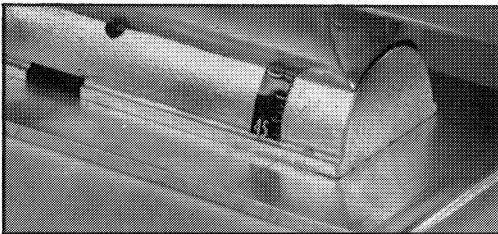

Fig. 5
Since your saw has an adjustable base, you can make bevel cuts between 0 degrees and 45 degrees to either side of the center. When the top (0) line on the trunnion index plate, Fig. 5, is adjacent to the housing, the saw is set for regular right angle (no bevel) cutting. When the first short line down is adjacent to the housing, the saw is set for a 5 degree bevel cut. When the second short line down is adjacent to the housing, the saw is set for a 10 degree bevel cut. When